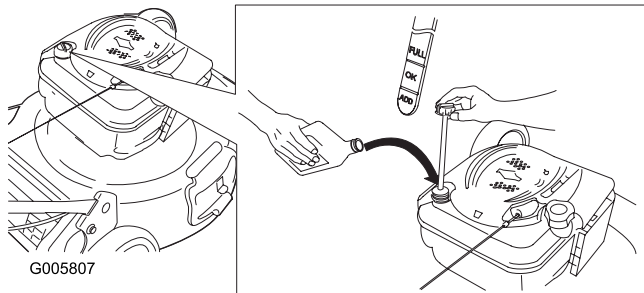

Figure 29
4. **Slowly** pour oil into the oil fill tube until the oil level reaches the **Full** line on the dipstick (Figure 29). **Do not overfill.** (Max. fill: 20 oz. (0.59 l), type: SAE 30W detergent oil with an API service classification of SF, SG, SH, SJ, SL, or higher.)